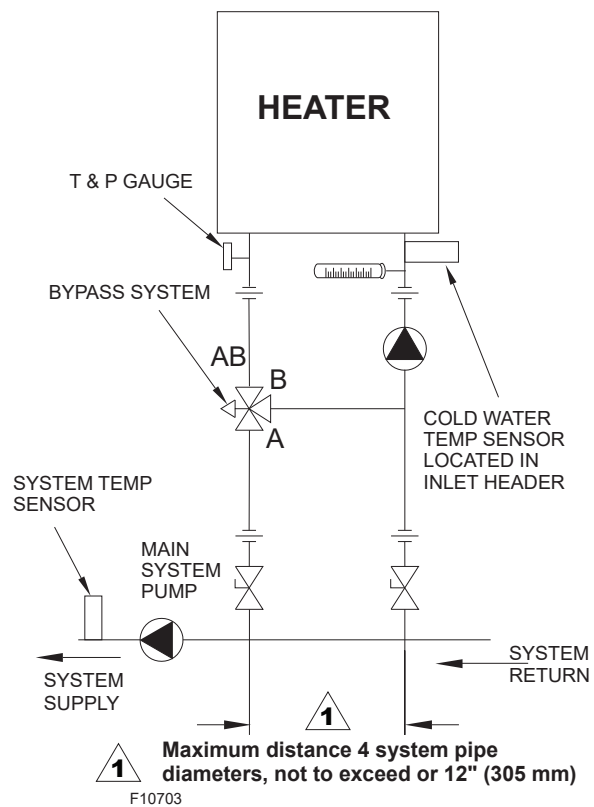
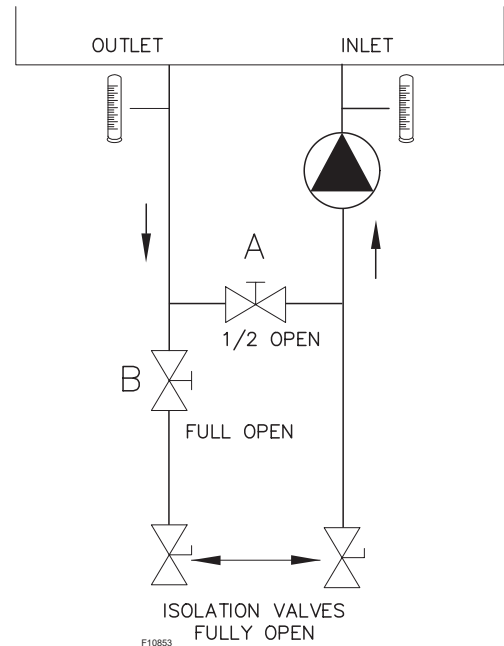

Figure 9. Cold Water Start
Figure 11. “H” Bypass Setting
Hydronic systems where the inlet water temperature is initially below 120°F (49°C) and then rises above that temperature **MUST** have a low-temperature operation system (**Figure 9** through **Figure 11**) to prevent problems with condensation. Inlet water temperatures below 120°F (49°C) can excessively cool the products of combustion, resulting in collection of condensate in the heat exchanger area beyond the capacity of the condensate evaporation system.
3. With the heater operating at 100% firing rate, set Valve A (the bypass) to ½ open position, and Valve B to fully open position. See **Figure 11**.
5. If this process does not raise the inlet water temperature to 105°F (40°C) for Pool Heater (P) versions and 120°F (49°C) for Hydronic Heating (H7) or Domestic Hot Water (WH7) versions and Valve A is fully open, then slowly throttle Valve B closed to increase the inlet water temperature to the required temperature.